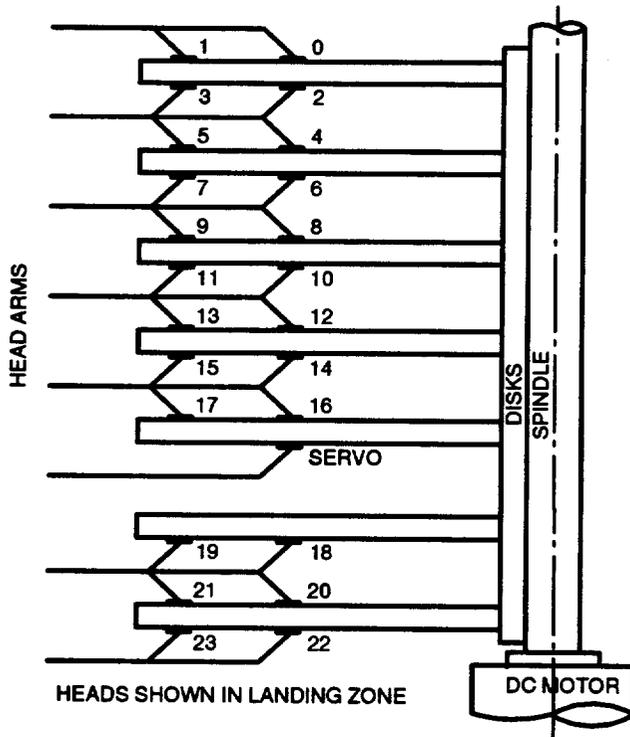

Figure 3. FSD-340 Head Disk Scheme
2.06 The KS-22875, L10, FSD has an unformatted storage capacity of 340 megabytes. After formatting, the disk drive provides approximately 227 megabytes of storage capacity. The disk drive controls and accesses a 9-inch, 7-platter rigid disk. Of the 14 surfaces comprising the 7-platter disk, 1 surface contains servo track information and 12 surfaces contain data storage (Figure 3). The servo surface is a prerecorded read only surface dedicated to head positioning and timing. The surface directly adjacent to the servo surface is not used. The servo surface is accessed by one data recording head, whereas each data storage surface is accessed by two movable data recording heads.